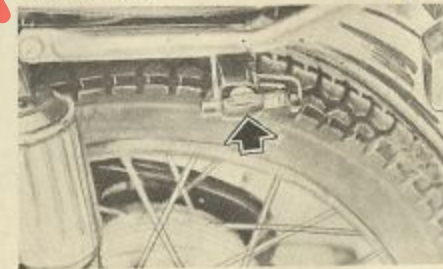

Fig 8a
**HELMET LOCK:** Helmet Lock (fig. 8a) is fitted in the rear left hand side of motorcycle. It can be operated by using a separate key provided with the motorcycle.